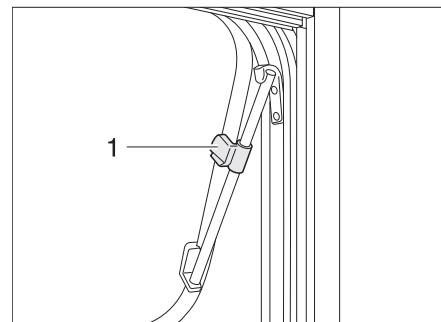

Fig. 36 Hinged window with rotary hinges, open
- Open the hinged window until the required position has been reached and secure in position using the knurled knob (Bild 36,1).
- Turn the knurled knob (Bild 36,1) until the latch is released.